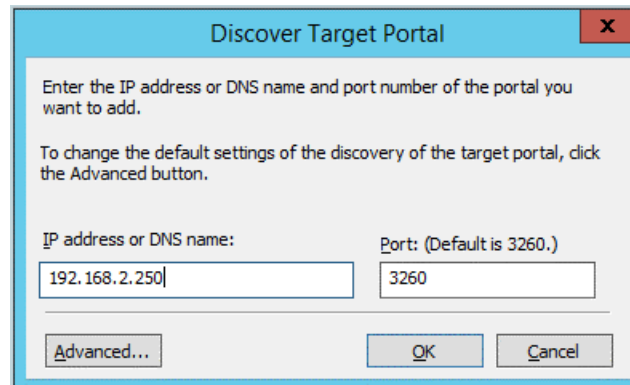

Figure 10-4. Target Portal IP Address
5. In the Discover Target Portal dialog box (Figure 10-4):